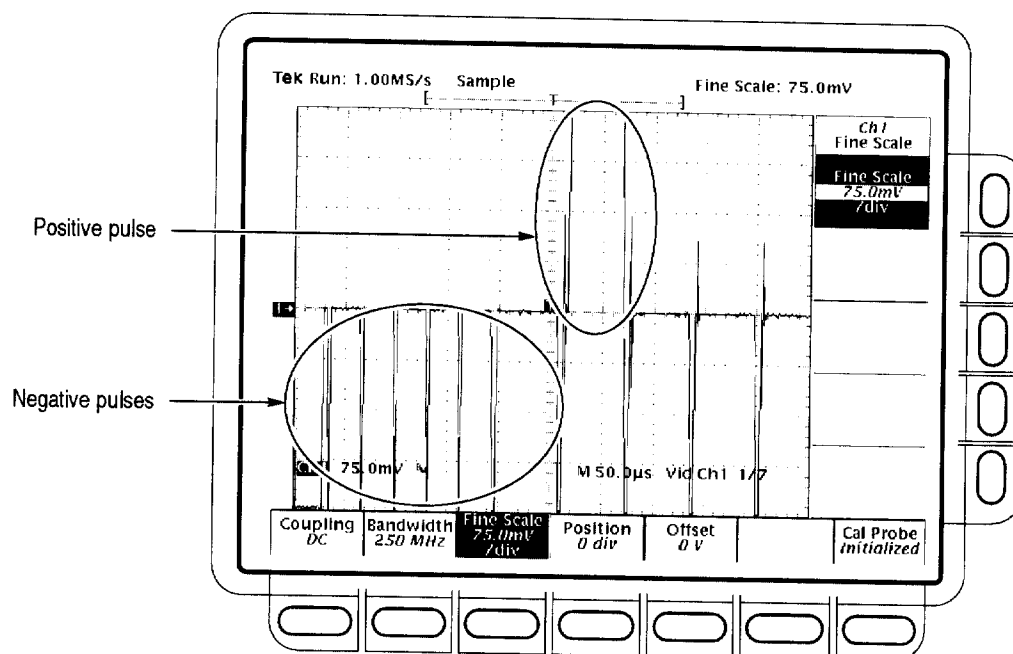

Figure 1-30: Triggered signal range test – 75 mV
- o. CONFIRM that the **TRIG'D** LED stays lighted and that the waveform on screen is stable. That is, it does not move horizontally or vertically. Also, CONFIRM that the waveform on the screen has one positive pulse and a number of negative pulses. See Figure 1-30.